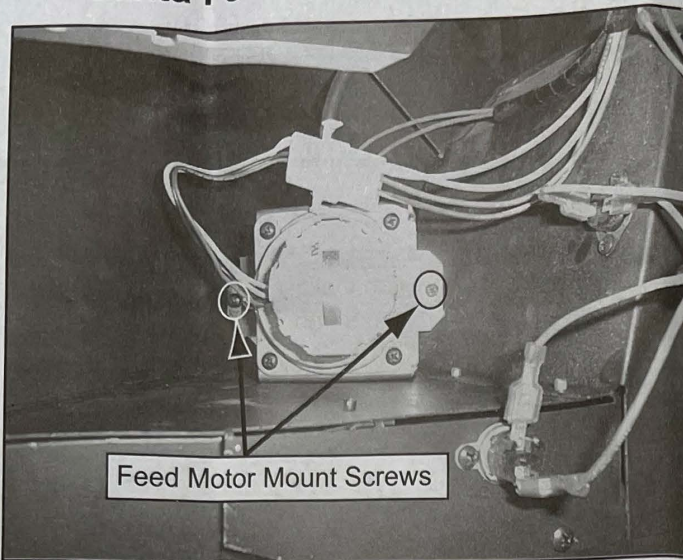

Figure 7
2. Disconnect the molex or spade connectors. Remove the 2 screws from the feed motor mount. **Figure 7.**